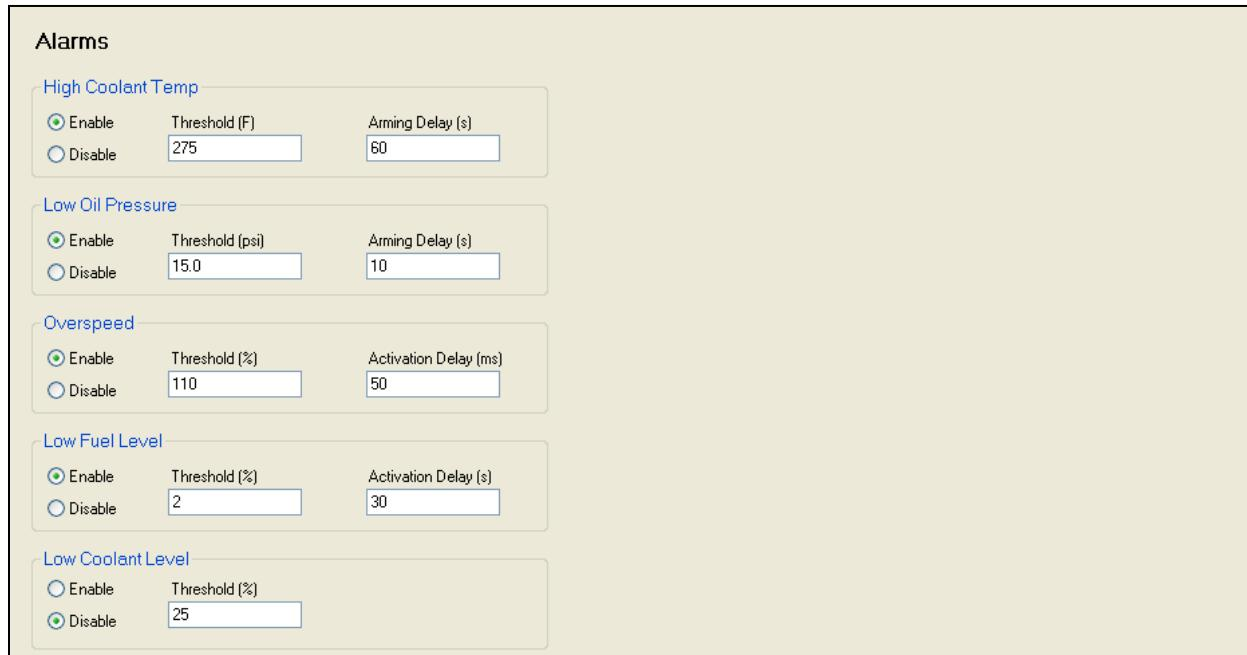

Figure 6-31. Settings Explorer, Alarm Configuration, Alarms Screen
- c. Alarms - Examine each of the alarms. Alarm setup is not required to operate the machine, but is likely to be desired to provide shutdowns for machine protection. Enable any desired alarms and enter an appropriate threshold. Set the *Activation Delay* where possible. The activation delay is the duration that a condition remains in effect before annunciating an alarm. Refer to the appropriate paragraphs in Section 4, *BESTCOMSPlus Software*, for additional information regarding alarm configuration. See Figure 6-31.